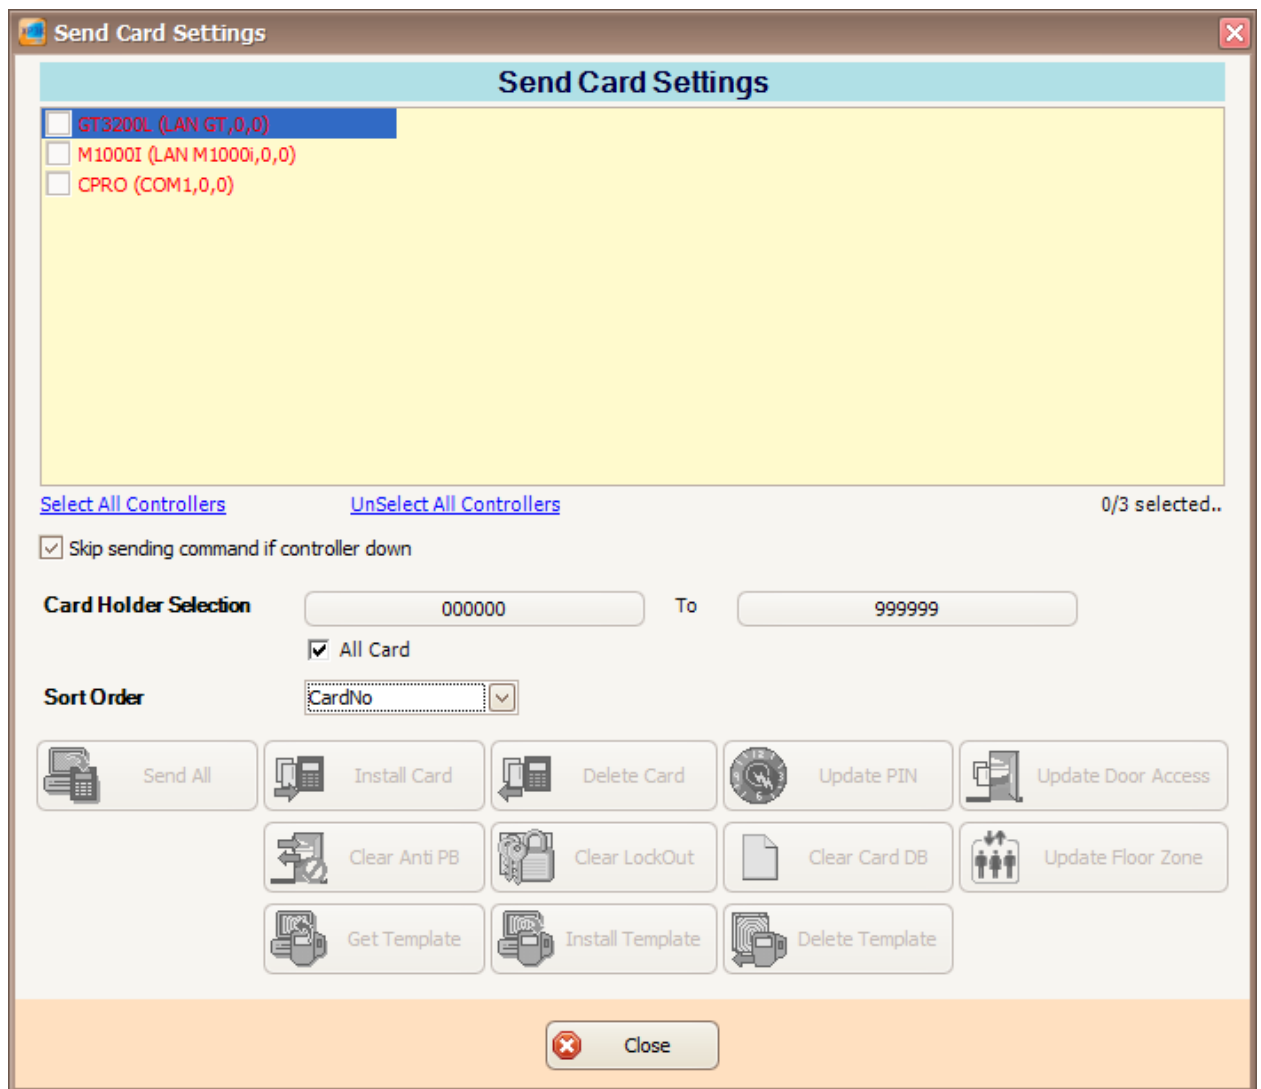

Figure 247 - Send Card Setting
2. The following window will be shown (Refer **Figure 247**).